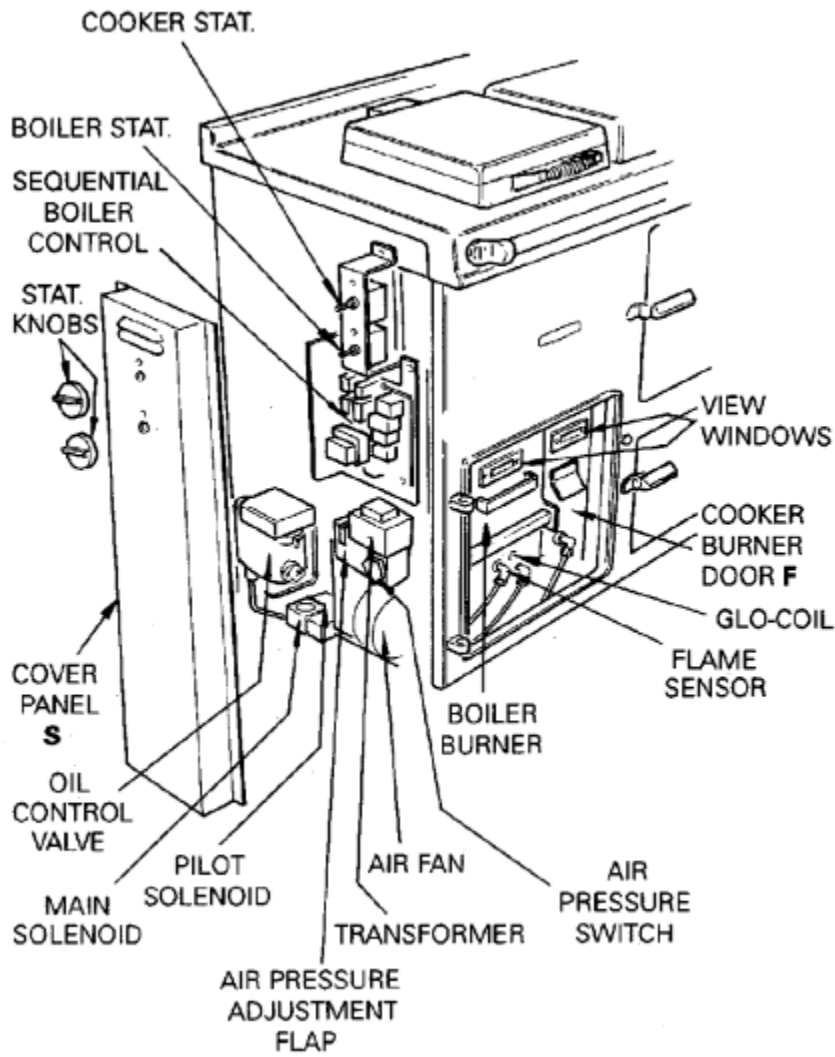

Fig.11 DESN 510388
2. (i) Unscrew the pinch screw locating the Flame sensor and withdraw it from the burner front plate. See fig.11.
(ii) Detach the electrical connections to the glo-coil. See fig.11.
2. Adjust excess air pressure via air pressure adjustment flap on top of air duct at the L.H. side of cooker. (See fig.11.) No adjustment of the air pressure switch is needed.